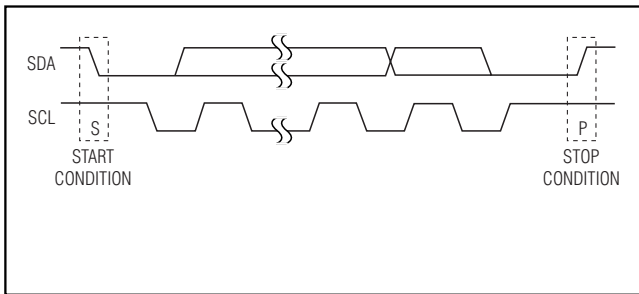

Figure 2. START and STOP Conditions
addresses plus R/W bits, 1 or more data bytes, and finally a STOP condition (Figure 2).
Both SCL and SDA remain high when the interface is not busy. A master signals the beginning of a transmission with a START (S) condition by transitioning SDA from high to low while SCL is high. When the master has finished communicating with the slave, the master issues a STOP (P) condition by transitioning SDA from low to high while SCL is high. The bus is then free for another transmission (Figure 2).